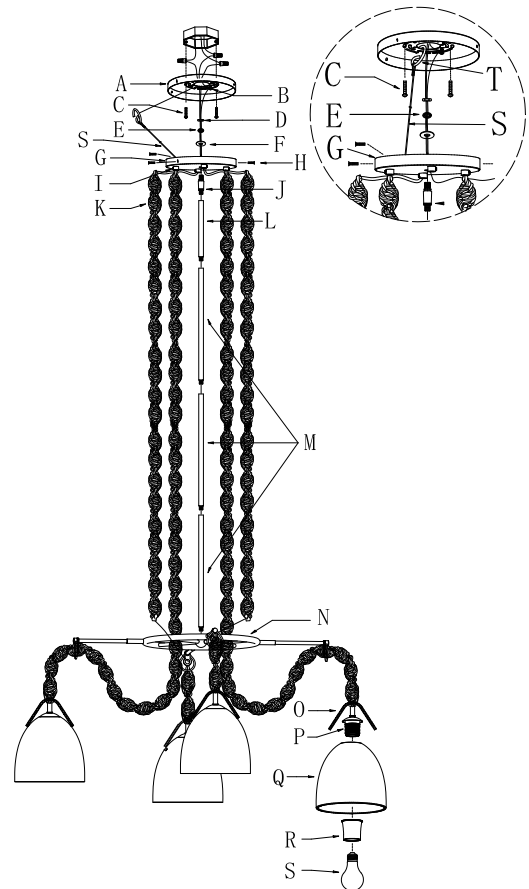

Fig. 2
CONNECTING THE WIRES (Fig. 2)
8. Connect electrical wires as shown in Fig.2, making sure that all wire connectors are secured. If your junction box has a ground wire (green or bare copper), connect the fixture's ground wire to it. Otherwise, connect the ground wire directly to the mounting plate (A) using the green screw (B) provided.